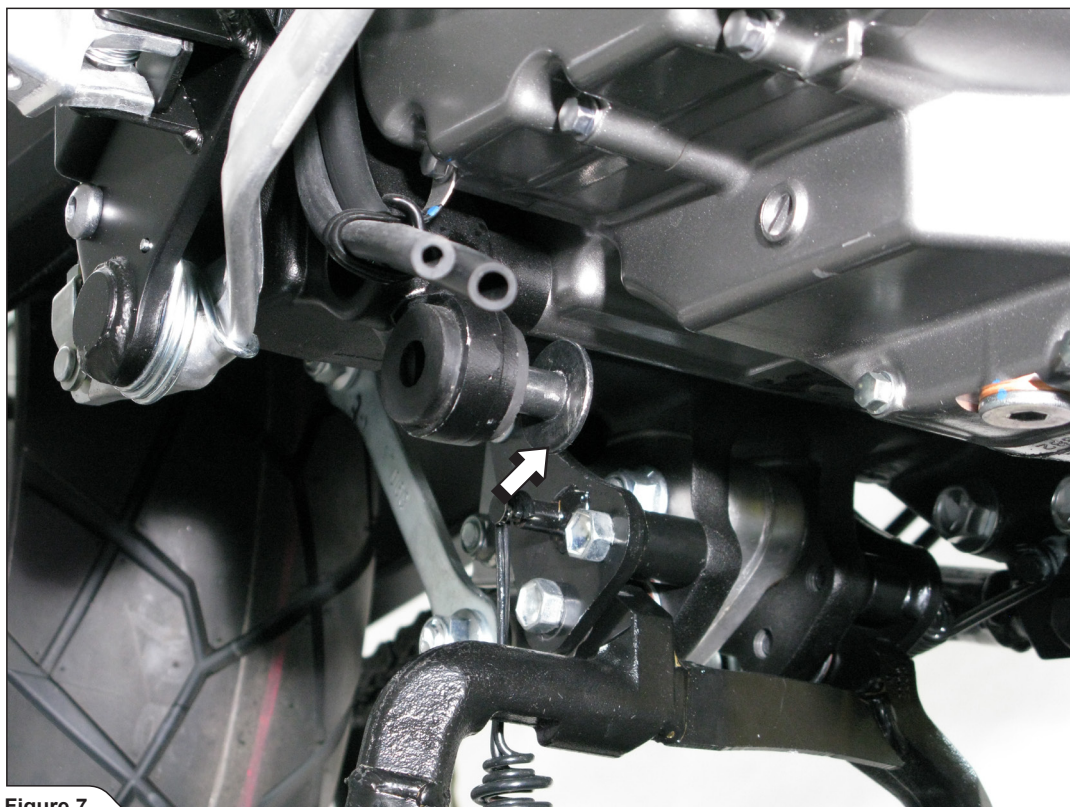

Figure 7
8. Remove marked metal collar from the frame collector's bracket (**Figure 7**).